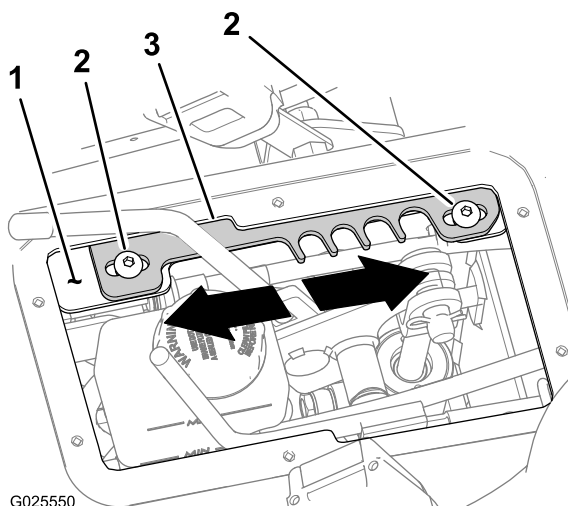

Figure 62
4. Move the speed-range lever to the T (TRANSPORT) position (Figure 62).
5. Loosen the 2 hex-socket screws (5/16 x 3/4 inch) that secure the detent plate to the lever-support bracket (Figure 62).
- Move the detent plate **forward** to increase the maximum ground speed limit (Figure 62).
- Move the detent plate **rearward** to decrease the maximum ground speed limit (Figure 62).